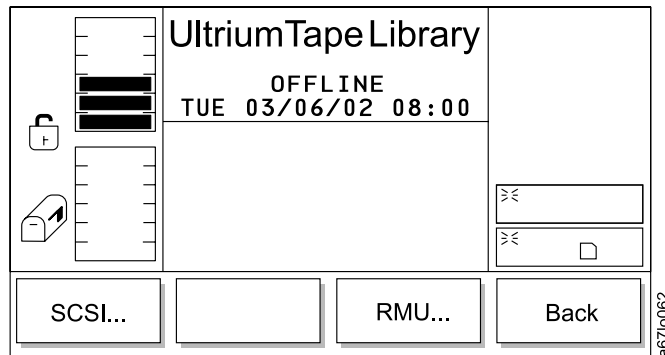

Figure 140. Library Submenu
- If **Library** is selected, the Library Submenu displays (see Figure 140 on page 122).
- If **Cancel** is selected, the Library Submenu displays (see Figure 140 on page 122).